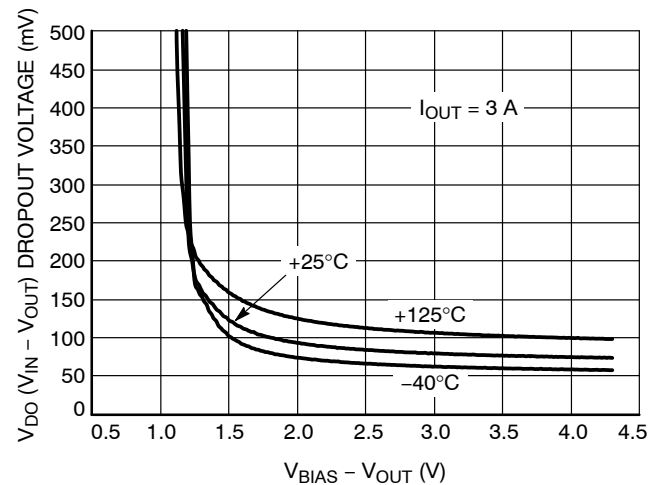

Figure 8. V_{IN} Dropout Voltage vs. $(V_{BIAS} - V_{OUT})$ and Temperature T_J
3. 3.25 V is a test condition of this device and can be adjusted by referring to Figure 8.